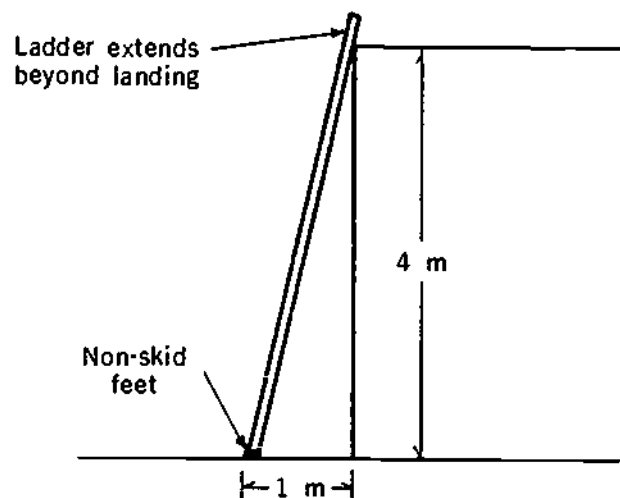

Figure 2-5
2. The feet of the ladder should be placed one metre away from the wall for every 4 vertical metres (Figure 2-5).